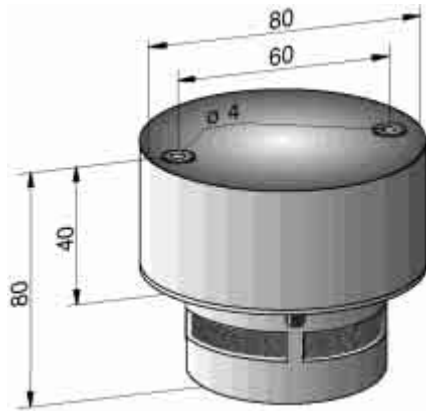

Fig.4
- Open the required cable entry knockouts, then fix the base to the ceiling using the fasteners supplied with each unit (see Fig.4 for dimensions).